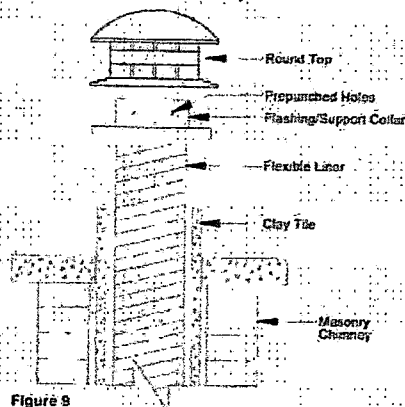

Figure 9
Pull enough of the Flexible Liner through the Flashing/Support assembly to be able to slide the Round Top into the Flexible Liner (see Figures 9 and 10).
Slide the Round Top and Liner back through the Flashing/Support assembly until the skirt of the Round Top comes in contact with the collar of the Flashing/Support assembly. Install the four (4) 3/4" sheet metal screws (provided) through the prepunched holes in the Flashing collar (see Figure 9).